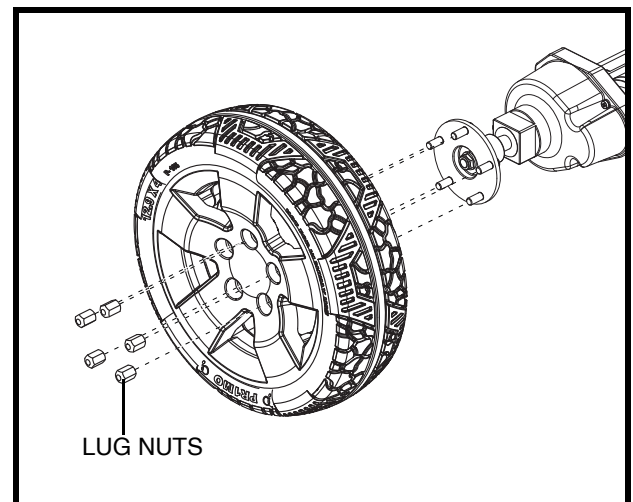

Figure 25. Solid Tyre Wheel Removal
3. Remove the lug nuts. **See figure 25.**